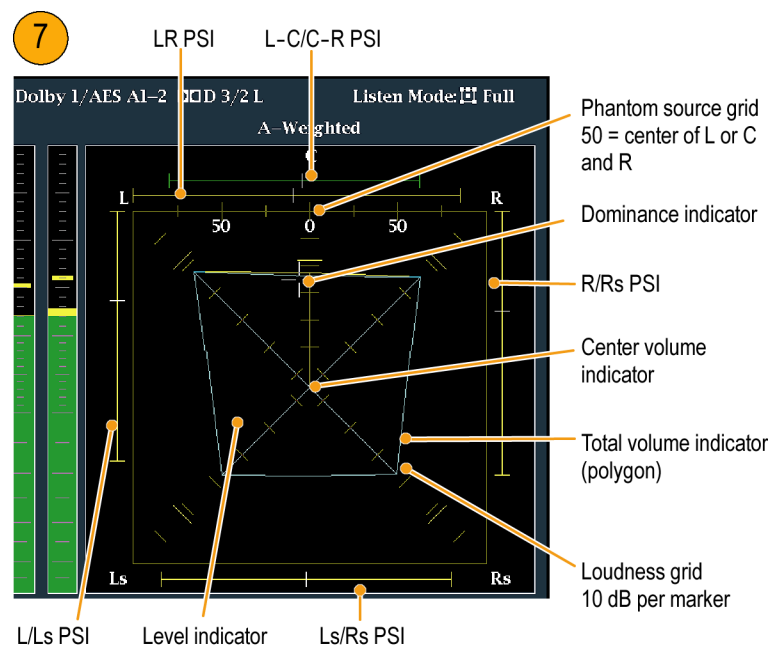

Figure 58: Surround sound indicators
7. Use the surround display to monitor relative loudness of the individual elements rendered in a surround-sound listening environment. Check the surround sound display for performance parameters and indicators. (See Figure 58.)